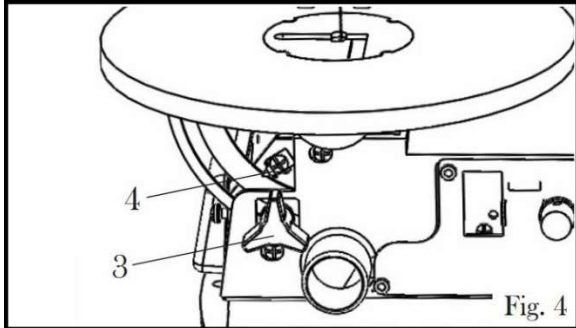

Figure 4
- Now secure the table in place with the bevel locking knob located under the table (3) to prevent any further movement and lock in the adjustments. (see figure 4)
- Loosen Phillips head screw (4) that holds the bevel scale pointer and adjust it so that the position of the pointer is at 0°. Then tighten the screw to secure the adjustment. (figure 4)